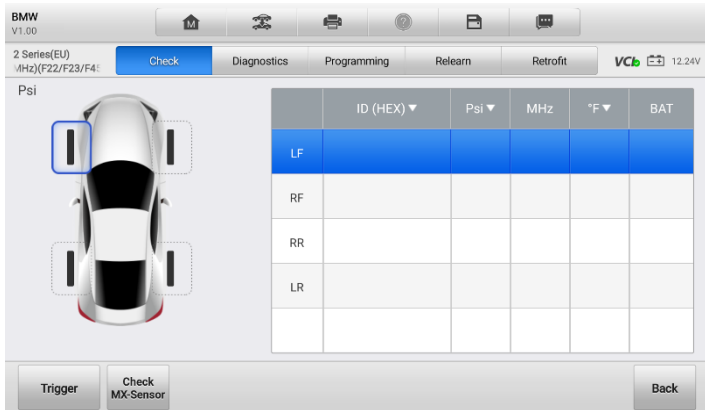

Figure 5-14 TPMS Service Screen
- Then the TPMS Service Menu will display. See Figure 5-14 TPMS Service Screen.
6. After confirming vehicle information, tap **OK** to enter the TPMS Service Menu. See Figure 5-14 TPMS Service Screen.
5. After that, follow the screen to confirm vehicle information and enter TPMS Service Menu. See Figure 5-14 TPMS Service Screen.